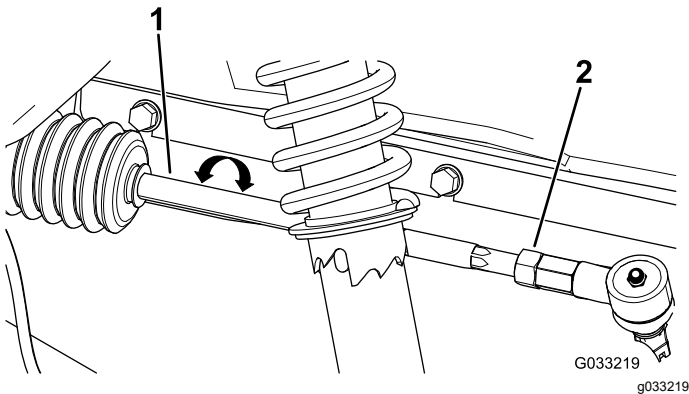

Figure 52
2. If the measurement does not fall within 0 to 6 mm (0 to 1/4 inch), loosen the jam nuts at the outer end of the tie rods (Figure 52).